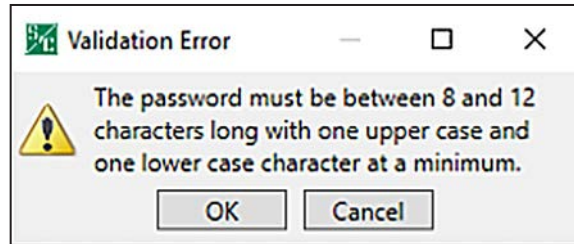

Figure 44. The Validation Error dialog box.
STEP 6. If the password was not successfully validated, the Validation Error dialog box will open. See Figure 44 on page 98. Click on the **OK** button to attempt to change the password again. Go to Step 3.